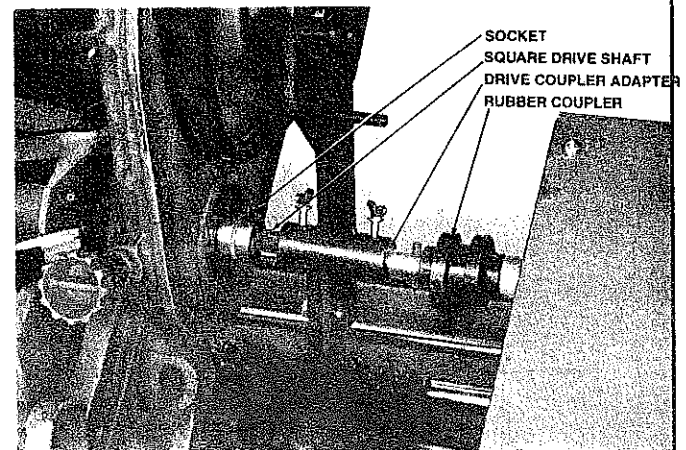

FIG. 55
- D. Square Drive Shaft: This is inserted into the adapter sleeve and should be able to be moved approximately 2". It will be necessary to move this when attaching reel to spin drive unit. It is then inserted into any 1/2" square drive socket. (See FIG. 55)